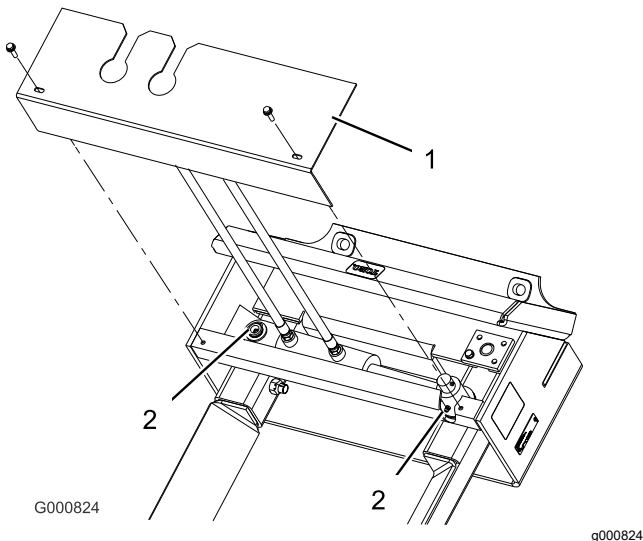
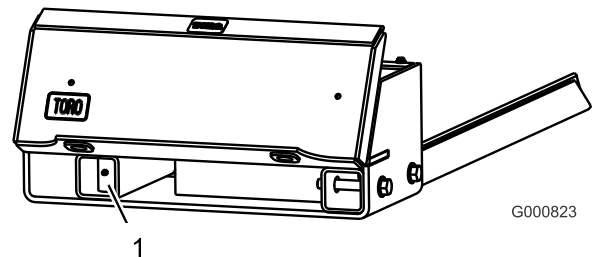

Figure 5
Figure 6
2. Remove the 2 bolts securing the cover and remove it (Figure 5).
3. Clean the grease fittings (Figure 5 and Figure 6) with a rag. Make sure that you scrape any paint off the front of the fitting(s).
4. Connect a grease gun to each fitting (Figure 5 and Figure 6).